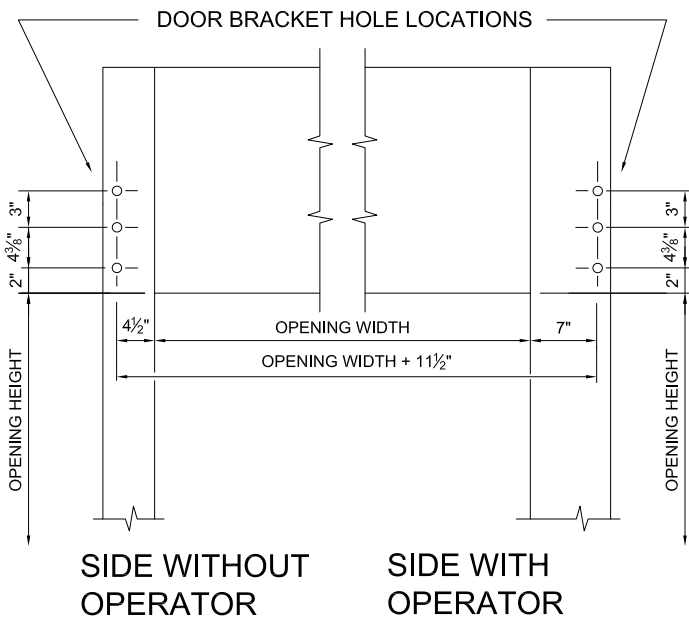

**Figure 2.**
3.2 Narrow Jamb Application: Narrow jamb plates are available, for situations in which the jamb is not wide enough for bracket mounting. This condition should be made known at the time of order entry so that you will have the hardware when you need it. (See Figure 2).